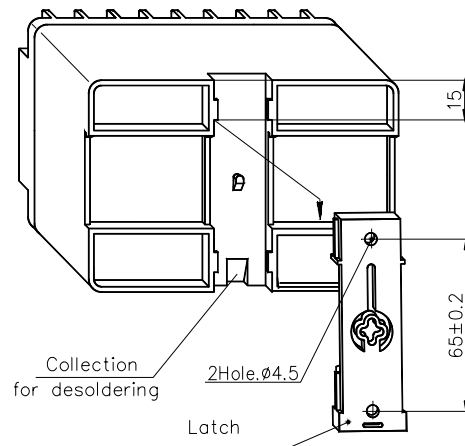

Figure B.2 Mounting of the Panel
- fix a latch on the panel with the help of two screws according to figure B.2;